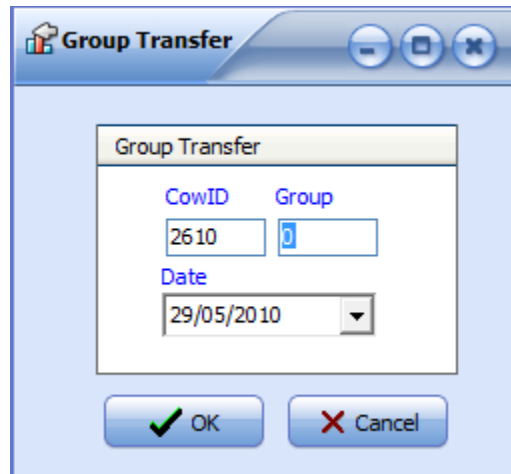

Figure 34 Group Transfer screen.
- The screen in Figure 34 on the next page will be displayed.